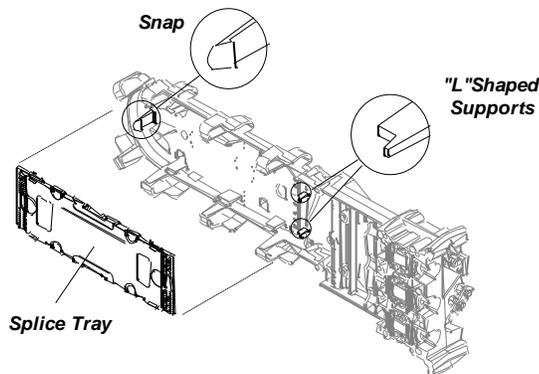

Figure 18a - Storing Fiber Trays
15.10 Express cable (Loose Tube and Ribbon) Installation – Refer to Figures 18a and 18b.
- 16.04** After splicing is complete and the trays are stored, secure them by using the hook and loop strap provided. See **Figure 18a and 18b**.